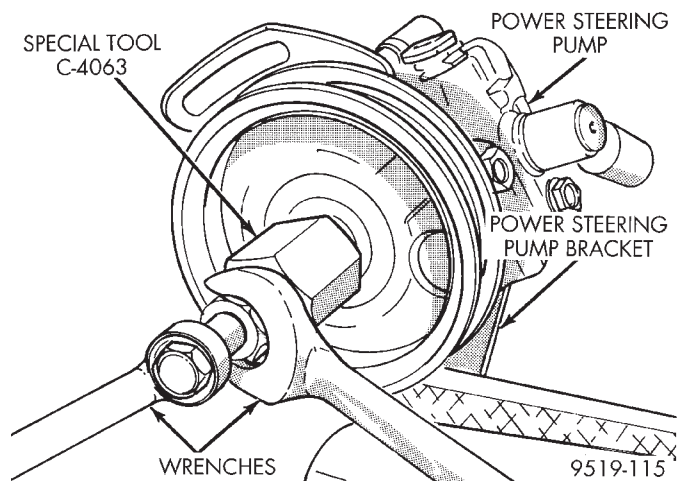

Fig. 30 Installing Pulley On Shaft Of Power Steering Pump
(4) Mount Installer, Special Tool C-4063 in internal threads of the power steering pump shaft and against Special Tool 6936 on power steering pump pulley (Fig. 30).
(5) Ensuring that special tool and pulley remain aligned with pump shaft, force pulley onto power steering pump shaft until Special Tool 6936 is against the end of the power steering pump shaft. **When Special Tool 6936 is against the shaft of**